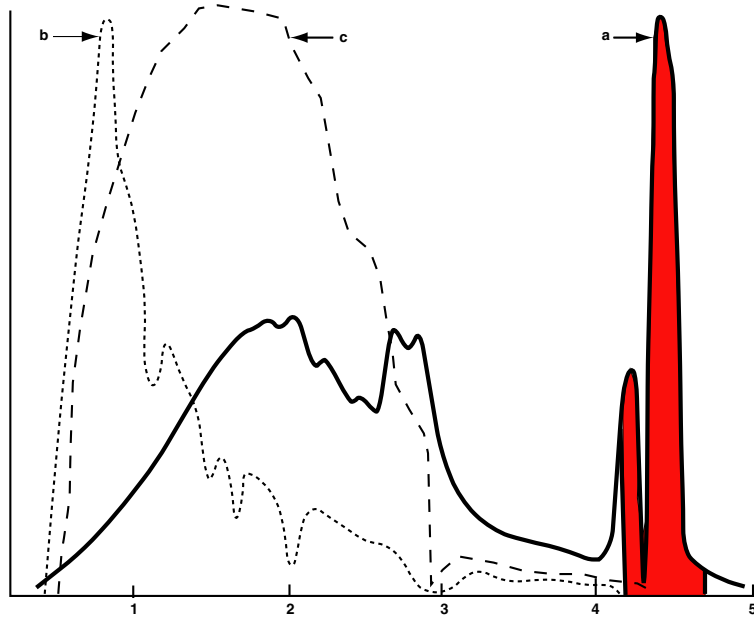

Fig. 1: Spectrums of:
- Fig. 1(a) shows the spectrum of a typical fire of this type
- Fig. 1(b) the spectrum of the radiation of the sun and
- Fig. 1(c) that of a tungsten filament lamp.
In order to exploit these spectral characteristics, the 801F uses an optical filter, which transmits infra-red between $4.38 \mu\text{m}$ and $4.56 \mu\text{m}$ (shown shaded in Fig. 1(a)). This bandwidth allows high sensitivity to flames with low sensitivity to other interfering sources.